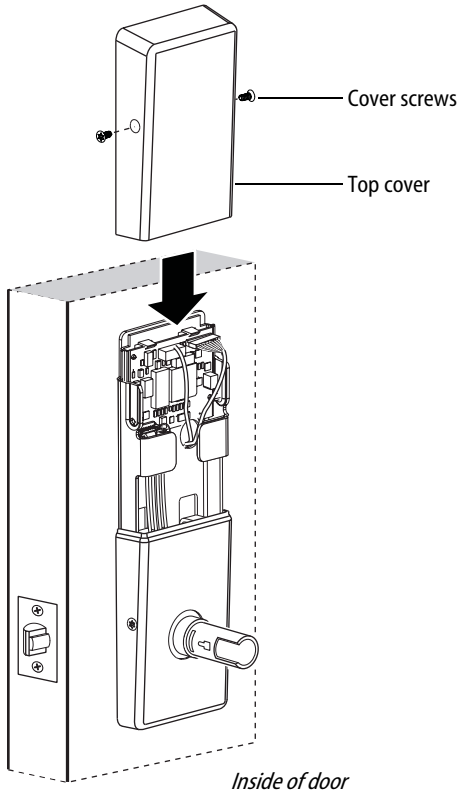

Figure 19 Installing the top cover
- 2 Use two cover screws to secure the cover to the side of the fire plate, as shown in Figure 19.